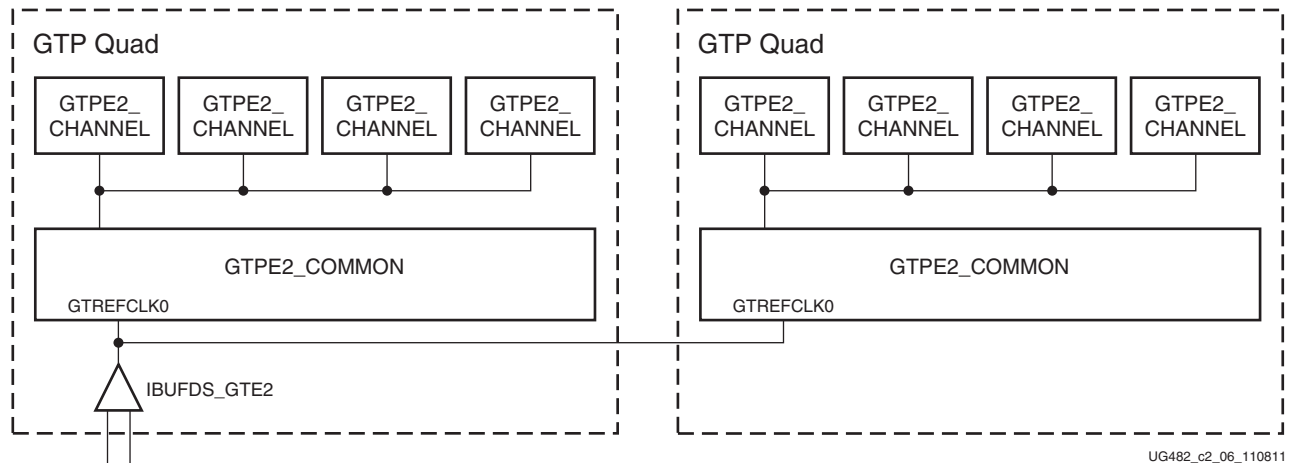

Figure 2-6: Two GTP Quads with a Single Shared Reference Clock
Figure 2-6 shows a single reference clock connected to two GTP Quads. The user connects the IBUFDS_GTE2 output (O) to the GTREFCLK0 input port of both GTPE2_COMMON primitive instances. Such a scenario is only possible in the larger Artix-7 devices that contain east and west GTP Quads adjacent to each other.
When required, as is the case for the design in Figure 2-6, the Xilinx implementation tools make the necessary adjustments to the east/west routing shown in Figure 2-2, page 26, as well as any necessary pin swapping to the GTPE2_COMMON clock inputs to route the reference clocks between two Quads.